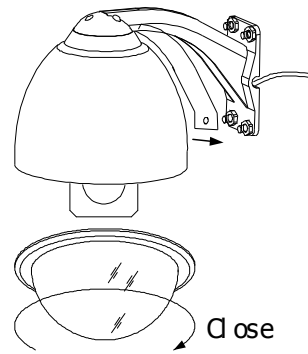

Figure 13
11. Rotate the dome cover clockwise and mount it. See Figure 13.